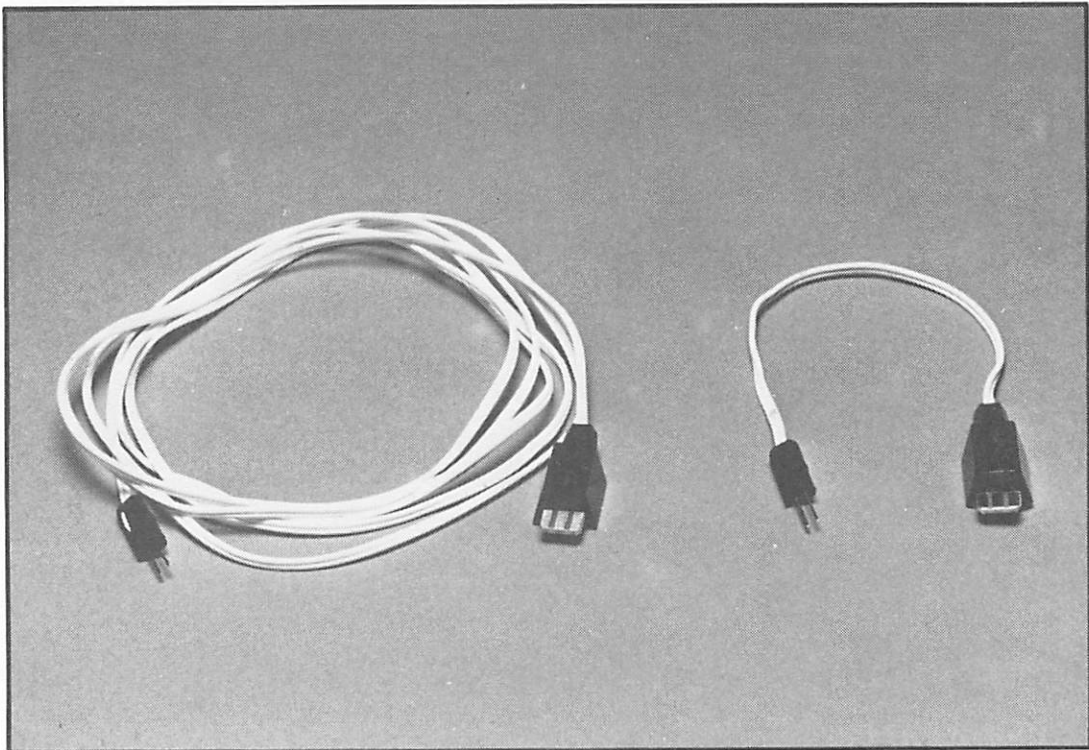

Figure 1-7. Probe Extension Cable and Probe Adapter
- i. IVAC Probe Extension Cable - Model P869 (figure 1-7). The probe extension cable is a 6-foot long connecting cable which attaches to both the VITAL●CHECK monitor and the disposable probe, providing a reusable interface for the disposable probe.
- j. IVAC Probe Adapter - Model P868 (figure 1-7). The probe adapter, a 1-1/2 inch long connector, can be used instead of the probe extension cable to connect the disposable probe to the VITAL●CHECK monitor.